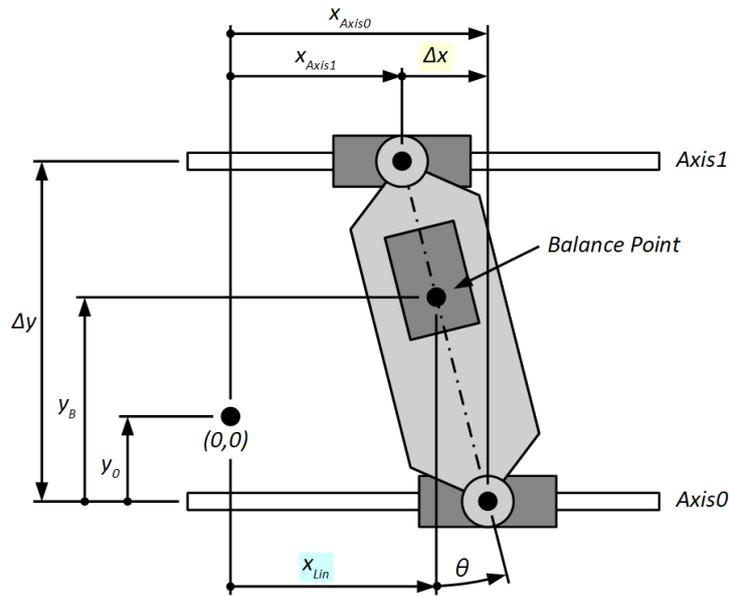

Figure 1: Gantry coordinate systems: Motor related coordinates (x_{Axis0} , x_{Axis1}) and linear/rotational coordinates (θ , x_{Lin}).
The coordinates are illustrated in Figure 1. The position difference $\Delta x = x_{Axis0} - x_{Axis1}$ is used as input for the rotational controller which is proportional to the angle θ ¹.
- If there is a dependency to another axis (in the following called axis y in accordance with Figure 1), repeat the measurement above for different positions of the axis y and fit `BalanceOffset` and `BalanceSlope` into the measurement according to the equation (2).